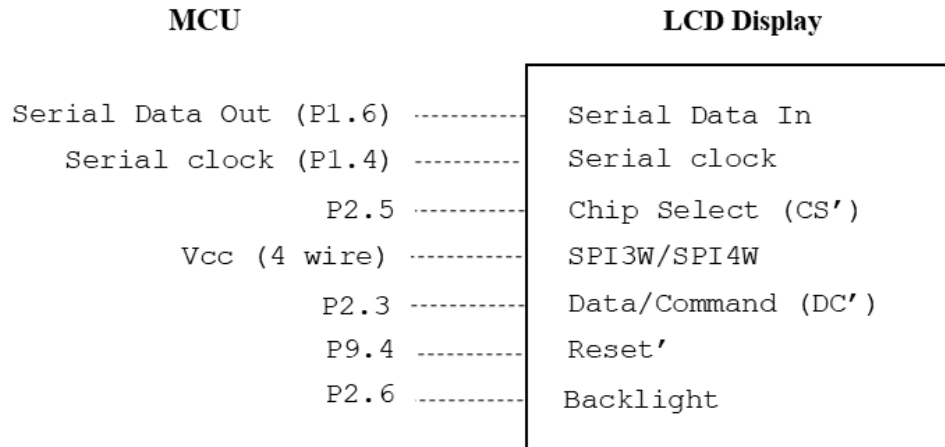

Figure 9.1: BoosterPack's Pixel Display Interface
The interface between the MCU and the display is shown in Figure 9.1. The display module's pins are shown on the right side and have the following functions. The first three pins are the SPI pins. There's no Serial Data Out (MISO) pin since the display doesn't transmit any data back to the MCU. The pin SPI3W/SPI4W is used to select between 3-pin SPI mode (in this mode, the CS pin is not used) and 4-pin SPI mode. On the BoosterPack, this pin is wired to Vcc which means that the CS pin is used. The Data/Command (DC) pin is used to label each byte that's received via SPI. The software driver sets the